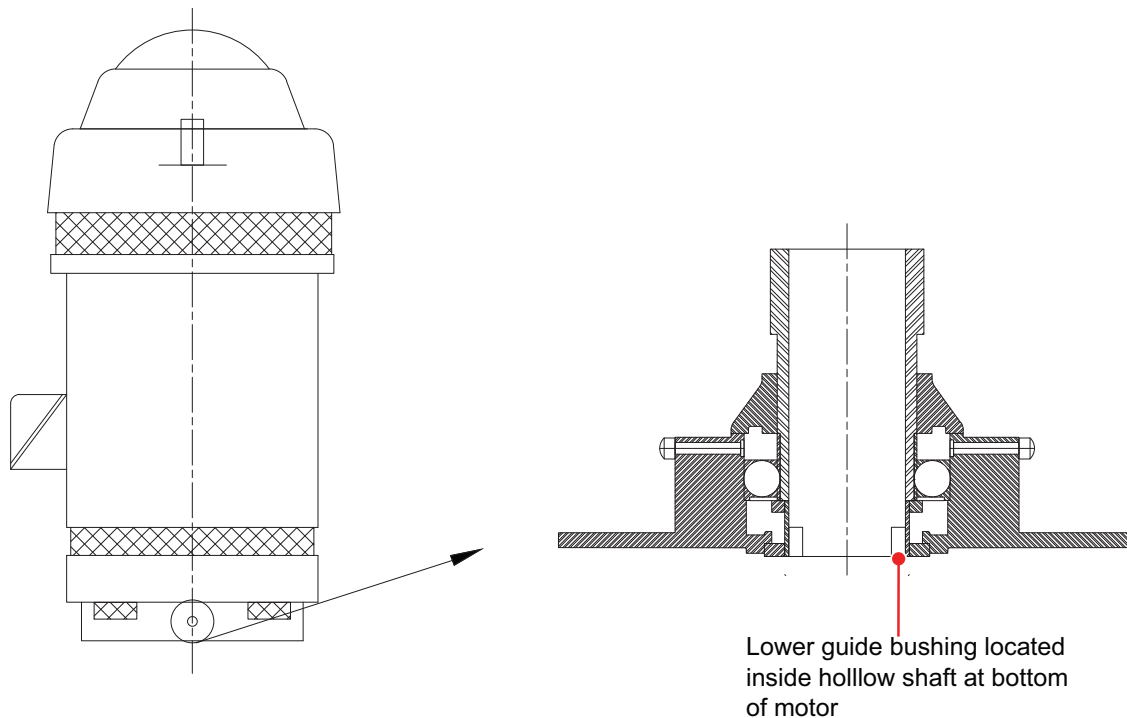

Figure 5-3: Motor Guide Bushing Location
4. Some electric motors are supplied with a lower guide bushing installed at the bottom of the motor to stabilize the shaft at this point (also called a steady bushing). Some motor manufacturers mount this guide bushing before shipping while others will ship the guide bushing separately with instructions for field mounting. If applicable, mount the guide bushing to the motor (refer Figure 5-3 on page 25).